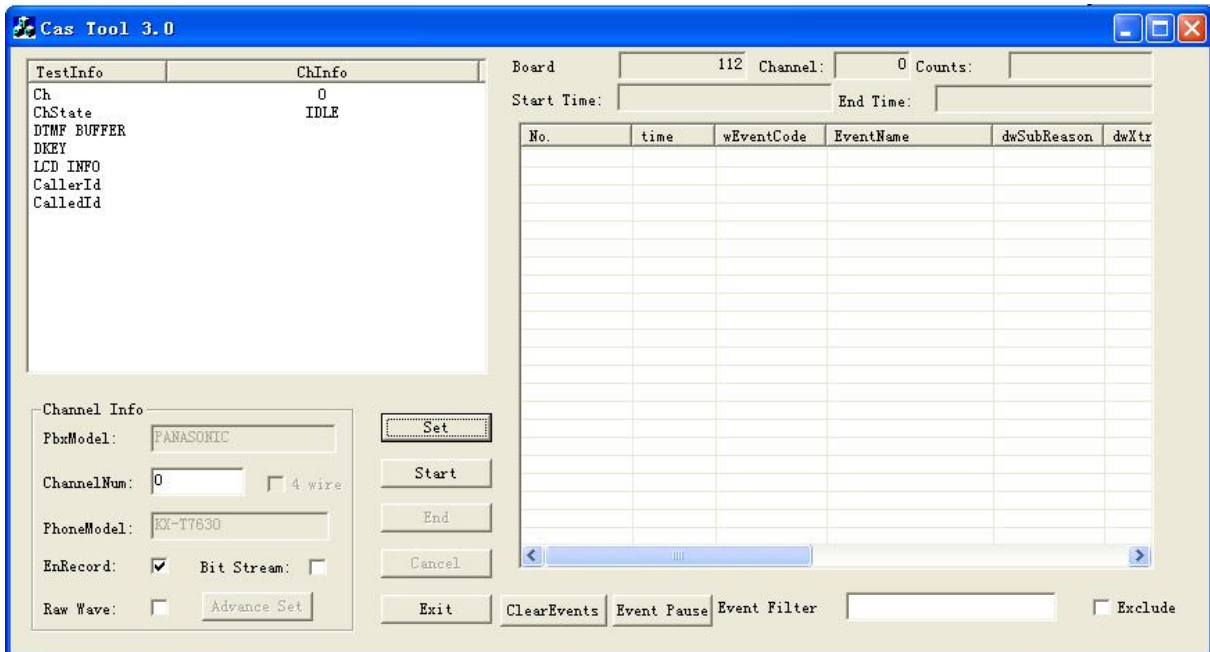

Figure 2-6
Step 6: Click on 'OK' back to the main window. Now the button 'Start' is activated as shown in Figure 2-6.